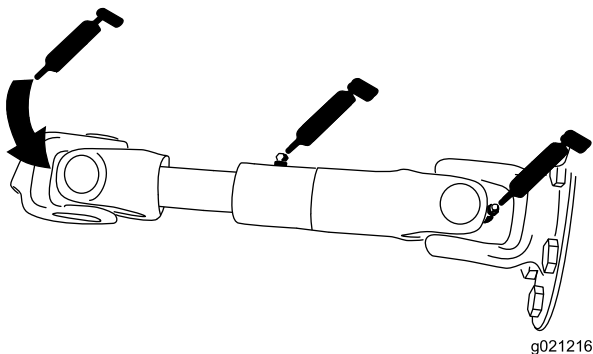

Figure 38
- Pump drive shaft (3) (Figure 38)